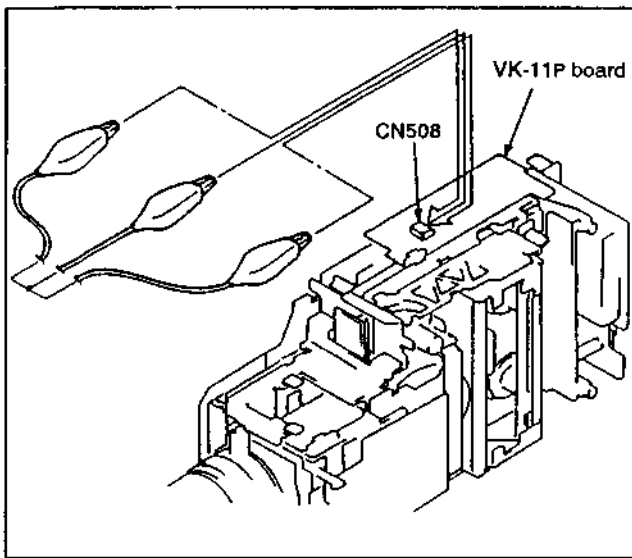

Fig. 8-1.
- Connect the TEST A terminal and TEST B terminal to the COM terminal. Connect Pin ① and Pin ③ of CN508 on the VK-11P board to Pin ②. (See Fig. 8-1.)